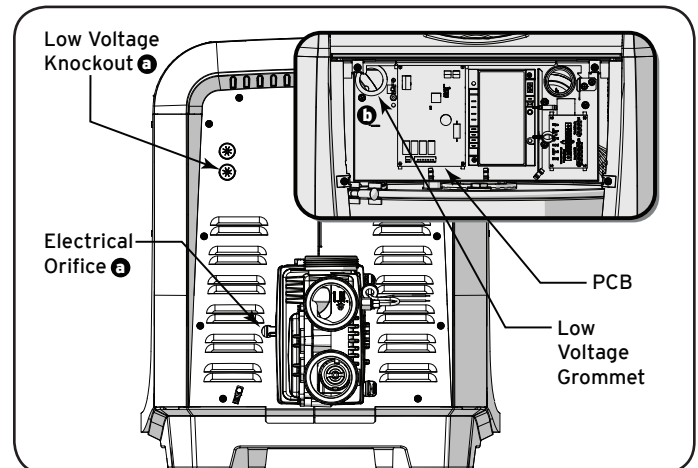

Figure 7. Bypass Harness Routing
2. Feed the electrical harness through the electrical orifice on the side panel. See Figure 7 (a). If using the low voltage knockout you may need to remove the cap and replace with the included knockout bushing.
NOTE: If your heater serial number is revision "G" (GXXXXXX) or earlier you will need to use the low voltage knockout to wire the heater. See Figure 7.
6. Pass the harness through the grommet at the low voltage raceway. See Figure 7 (b).